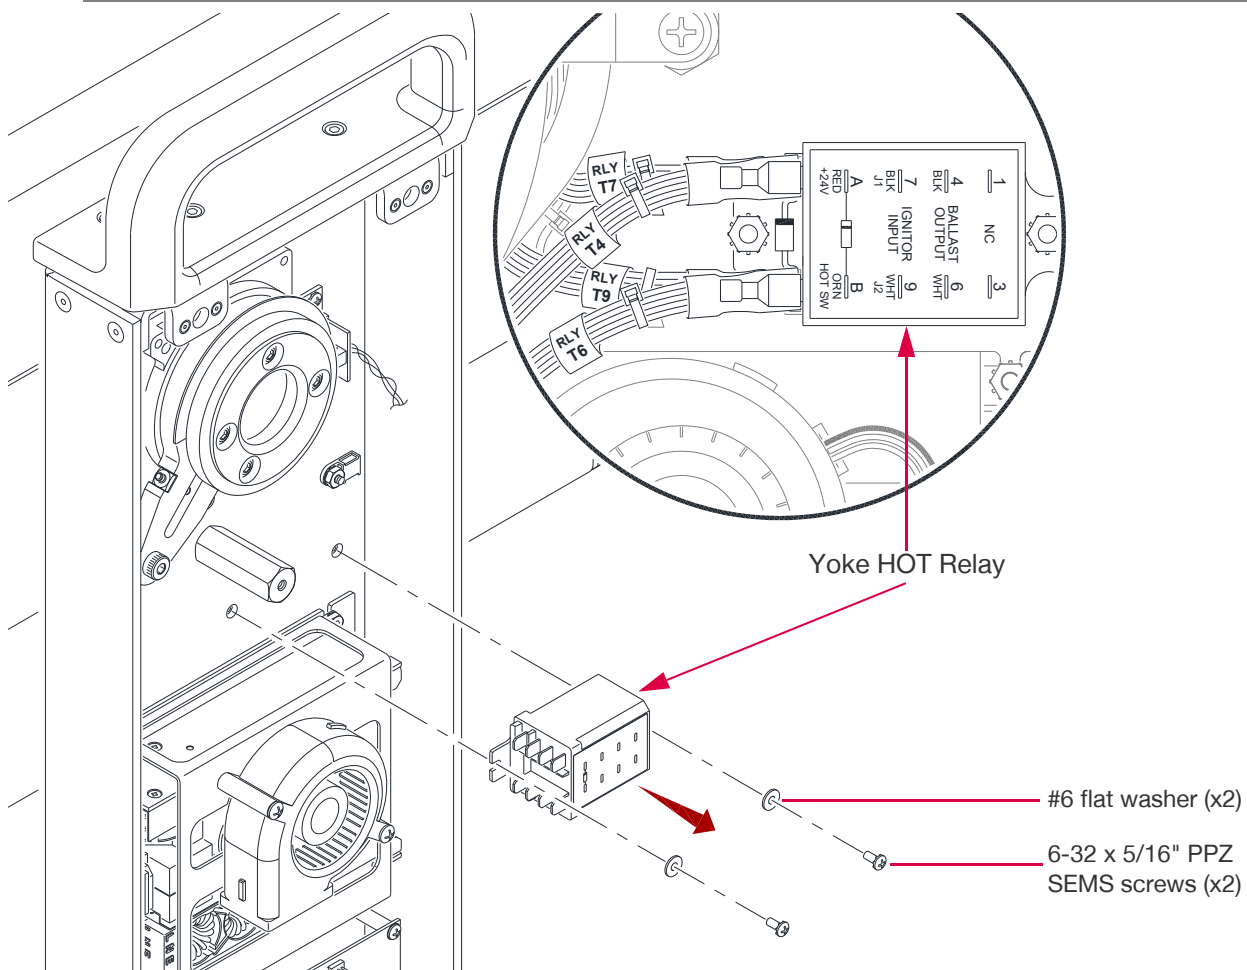

Figure 3-45: Replacing the Yoke HOT Relay
- Step 3. Disconnect wires from the Relay (See **Figure 3-45**)